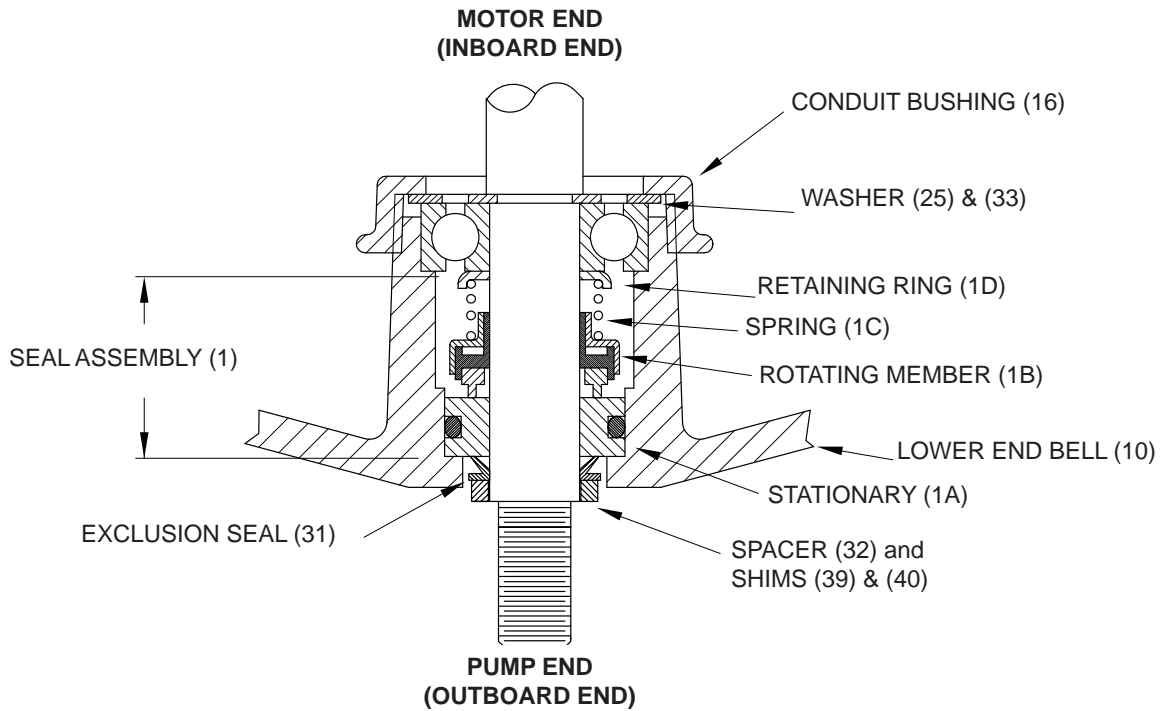

FIGURE 3
Seal - Remove rotating member (1a), spring (1c) and retaining ring (1d) from shaft. (see Figure 3). Examine all seal parts and especially contact faces. Inspect seal for signs of wear such as uneven wear pattern on stationary members, chips and scratches on either seal face. **DO NOT** interchange seal components, replace the entire shaft seal (1). If replacing seal, remove stationary (1a) from lower end bell (10) by prying out with flat screwdriver.